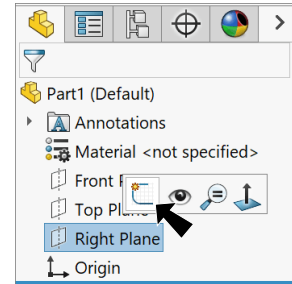
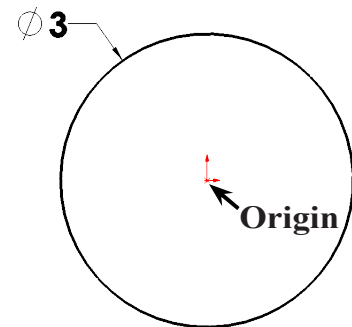

Fig. 1
Fig. 2
Step 2. Click **Right Plane**  in the Feature Manager and click **Sketch**  on the context toolbar, **Fig. 1**.
Step 3. Click **Circle**  (S) on the Sketch toolbar.
Step 4. Sketch a circle starting at the Origin , **Fig. 2**.
Step 5. Click **Smart Dimension**  (S) on the Sketch toolbar.
Step 6. Dimension circle **diameter 3**, **Fig. 2**.